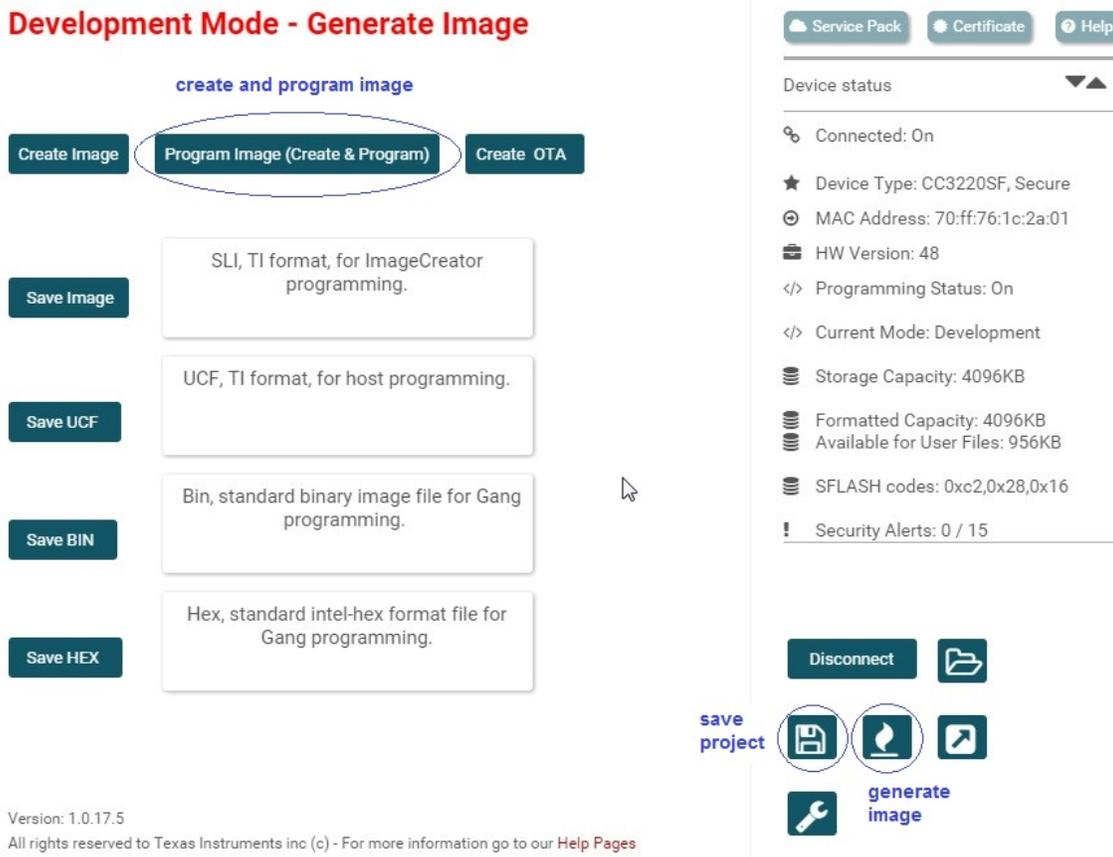

Figure 40. UniFlash Generate and Program Image
- Finally, click on the Program Image (Create and Program) button (see Figure 40). The image is now programmed to the device.